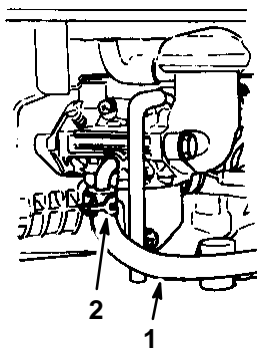

Figure 17
3. Remove the fuel tube by loosening the tube clamp at the carburetor (Fig. 17).
7. Remove the fuel filter from the fuel tank (Fig. 17).